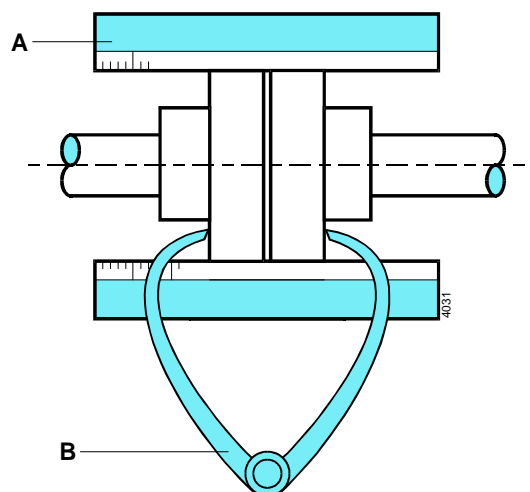

figure 3: Alignment of the coupling.
- 1 Place a ruler (A) on the coupling. Remove or add as many shims as is necessary to bring the electric motor to the correct height so that the straight edge touches both coupling halves over the entire length (see figure 3).
- 3 To be certain the check is also undertaken using external callipers (B) at 2 diametrically opposed points on the sides of the coupling halves (see figure 3).